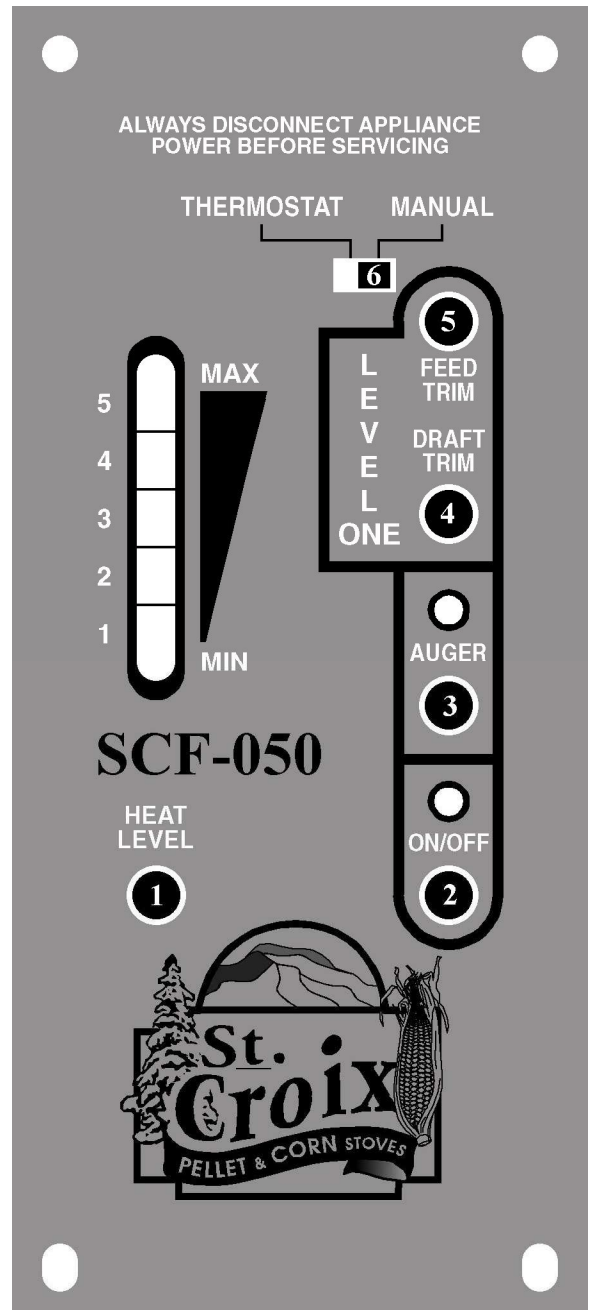

Figure 13
A closer look at the Control Board to the right in figure 13 will explain how the board works. There are five buttons labeled 1 through 5, a slide switch labeled 6 and a LED Light bar with 5 Heat Settings. **The LED Light bar is also used during the Diagnostic process, see page 29 for more details.**
The buttons on the board function as follows: (Refer to Figure13. The touch pad buttons are labeled with the white numbers 1 through 5)
### **Shutting The Furnace Off** *(Refer to Figure 13)*
The #2 LED and the #3 LED lights on the LED Light bar as show in figure13 will flash to give a diagnostic code to help in diagnosing problems that may occur.
1. The **Proof of Fire** switch. This switch will sense the temperature of the Exhaust rising during start up. If the Exhaust temperature does not reach 110 degrees F, or if during use the temperature drops below 110 degrees F, the Furnace will go into “**Internal Alarm**” and the Auger will quit feeding fuel. Once the Furnace completes the safety shutdown, the #3 LED will start blinking. *(See Figure 13 on Page 26)*
2. The **High Limit** switch. This sensor will sense if the unit reaches temperatures that are too high for normal operation. If this happens the Auger will quit feeding and the #2 and #3 LED lights will flash simultaneously. *(See Figure 13 on Page 26)*
3. The **Vacuum** switch. For the Furnace to operate correctly the firebox needs to be sealed. During the first 30 seconds after the Furnace has been turned on the control board will check to see if the switch senses negative pressure (Vacuum) in the firebox of the Furnace. If there is no negative pressure, the Furnace will go into “Safety shutdown” and the #2 LED will start blinking. *(See Figure 13 on Page 26)*